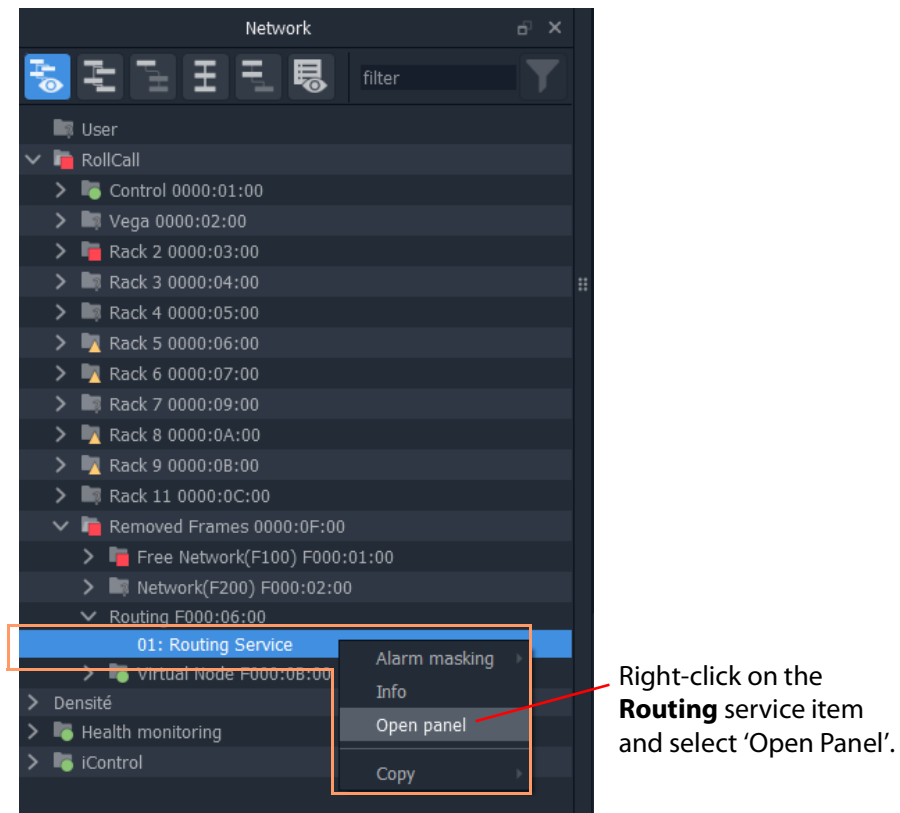

Fig. 5-5: Open a Bulk Routing Panel
- 3 Locate the **Routing** service item in the **Network** window of GV Orbit Client. And right-click on the item and select 'Open Panel'. See Figure 5-5.